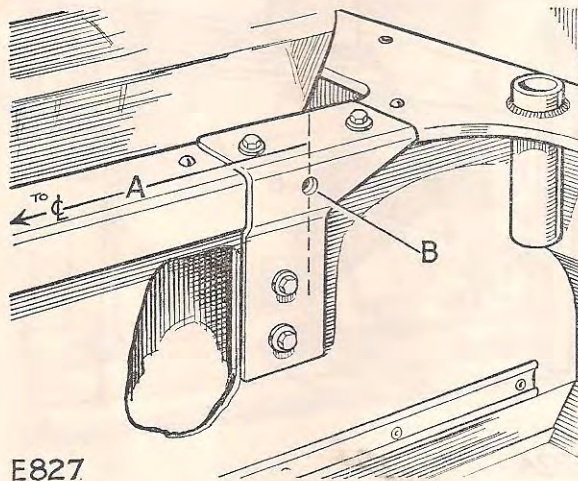

Fig. 9. Shoulder bracket in position. R.H. illustrated.
8. On the seat bulkhead top capping, mark off a centre position of vehicle—then mark off a position outboard $24\frac{5}{16}$ in. (617 mm), for R.H. or L.H. harness fixing as required, shown in Fig. 9.